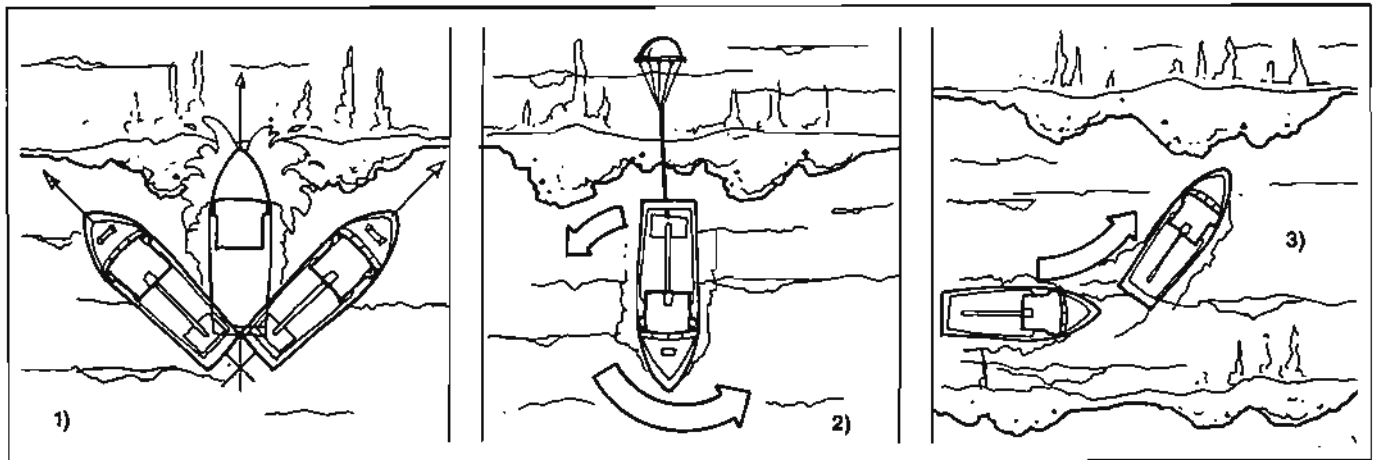

Figure 5-12. Heavy weather handling.
Reduce speed as soon as you notice heavy seas coming from up ahead, since even minimal pounding can damage the vessel. Adjust the throttle until the bow rises with the oncoming waves rather than driving into them. Taking the seas on the port or starboard bow also lessens some of the pitch (Figure 5-12).
Running before big seas is dangerous because the hull is lifted by the stern and you can lose steerage-way and power, and broach in the trough. When conditions warrant, reduce speed and let the swells roll by, or even use a drogue or sea anchor (Figure 5-12 (2)).
Avoid the trough except in an emergency. When you are moving broadside to the waves, turn the wheel momentarily to take larger crests on the windward bow, then return to course when conditions permit (Figure 5-12 (3)).